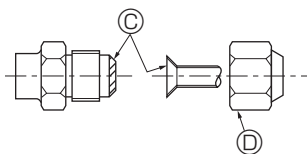

Fig. 4-2
4.2. Connecting pipes (Fig. 4-1, Fig. 4-2)
[Fig. 4-2]